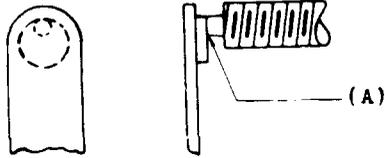

Fig. 3
2.06 Contact Alignment - Fig. 3 (A) - Contacts shall line up so that the point of the contact falls wholly within the circumference of the opposing contact disc. Gauge by eye.